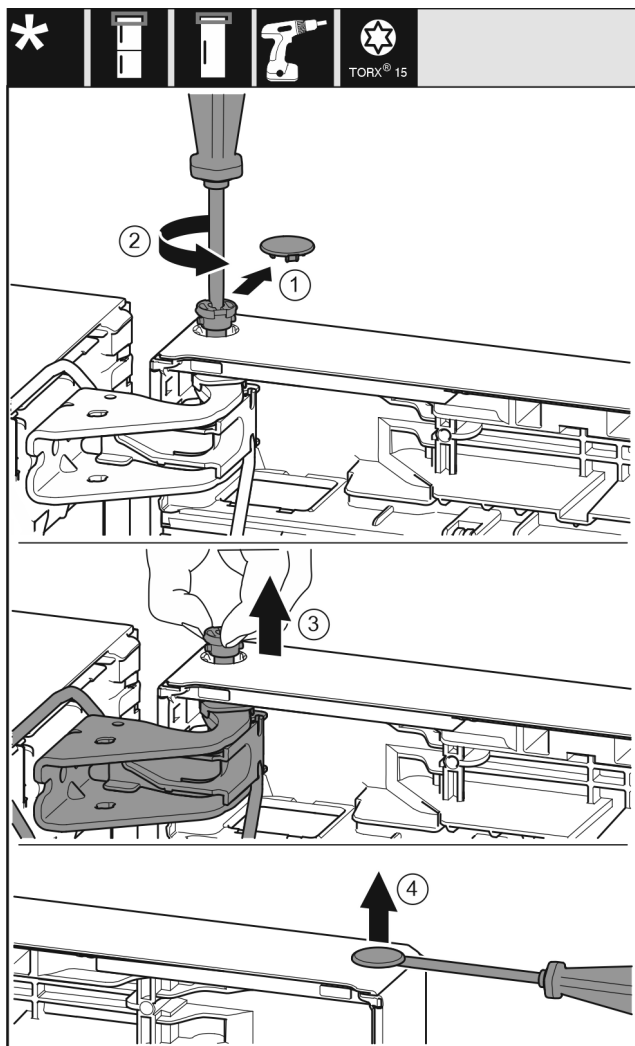

Fig. 20
- ▶ Carefully remove the protective cover. Fig. 20 (1)
- ▶ Loosen the bolts slightly with a T15 screwdriver. Fig. 20 (2)
- ▶ Hold the door and remove the bolts with your fingers. Fig. 20 (3)
- ▶ Carefully lift the plugs out of the door bearing bush with a slotted screwdriver and remove them. Fig. 20 (4)